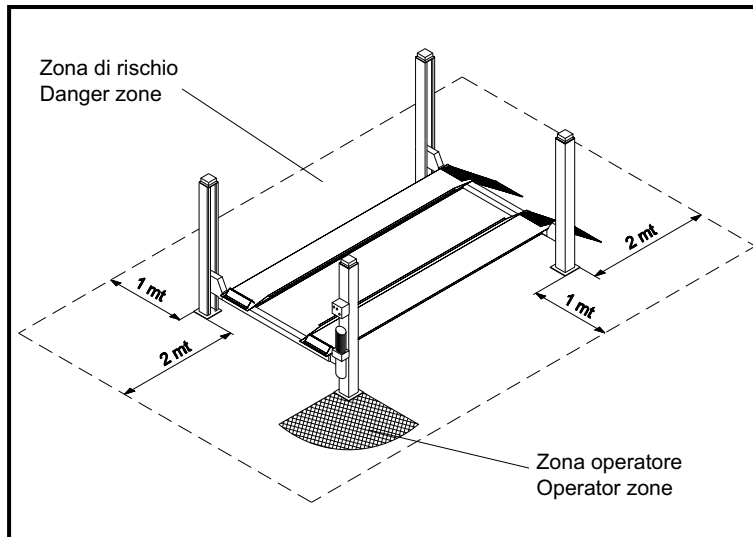

Fig.22
In fase di salita o discesa l'operatore deve agire soltanto dalla postazione di comando indicata in Fig.22.
È vietato a chiunque sostare sotto le traverse e/o le pedane in movimento o sostare entro la zona di rischio indicata in Fig.22.
During lifting and lowering movements the operator must remain in the control station as defined in figure 22.
The presence of persons beneath the cross-pieces and/or the platforms when they are moving, or the presence of persons inside the danger zone indicated in figure 22 is strictly prohibited. The area occupied from the lift and perimetral band of width 1÷2 mt of the lift are defined as "DANGER ZONE".
- si rispetti la zona di rischio durante il sollevamento (vedere Fig.22),
- do not enter the danger zone while vehicles are being lifted (see Fig.22),